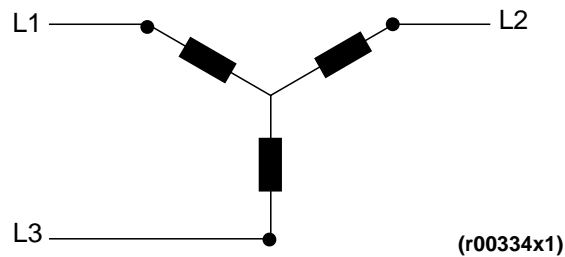

Figure 15: Motor block diagram
- Set the stop pin to the center position, as seen in Figure 15.